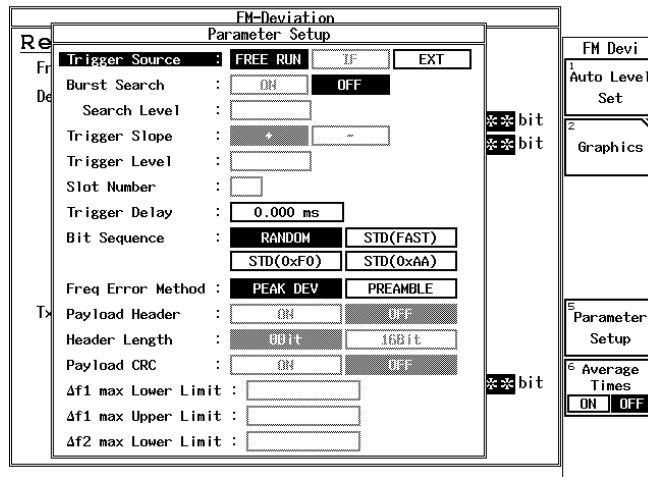

Figure 6-3 Setting of Measurement parameters
7. On the R3267 Series, set the measurement parameters as shown in Figure 6-3